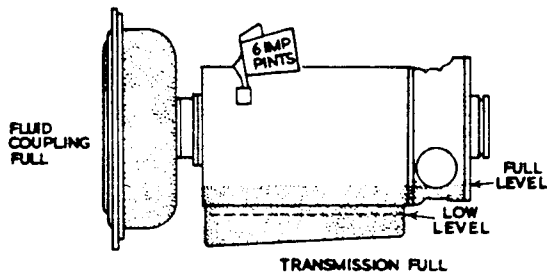

FIG. 3. SECOND FILL-IN.
- (iii) Add a further 6 Imp. pints (7 U.S. pints). Run the engine at a slow idle and check the fluid level with the dipstick. Add further fluid to bring the level up to the "FULL" mark on the dipstick. See Figs. 3 and 4.